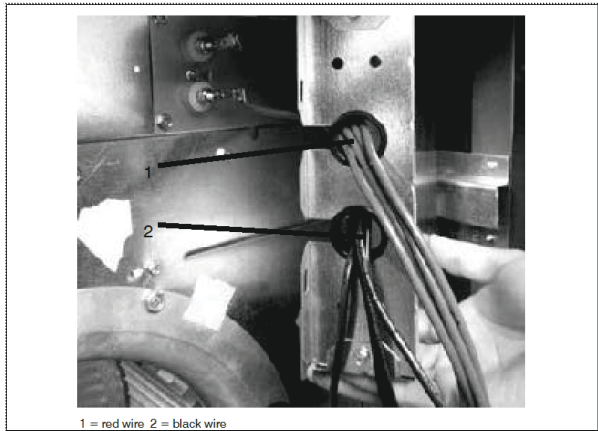

Fig. 12 – Routing Red and Black Wires
1. High voltage red and black wires are already separated and routed through grommets. Route the red wires through one cover hole and the black wires through the second cover hole as shown in Fig. 12.
2. Snap loose grommet in place on respective cover holes as per Fig. 12.